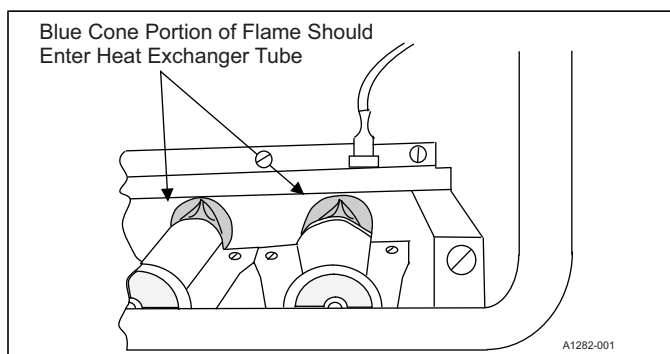

FIGURE 7: Burner Flame Drawing (Upflow Configuration Shown)
3. Check that the ON/OFF switch on the gas valve is turned to the ON position. Refer to Figures 7, 8 or 9.